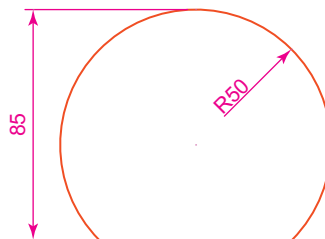

Fig. 14.40 Second example – 3D Surface – the part circle to be extruded
1. In the **Top** view on a layer colour **red** construct the circle Fig. 14.40. Using the **Break** tool break the circle as shown.